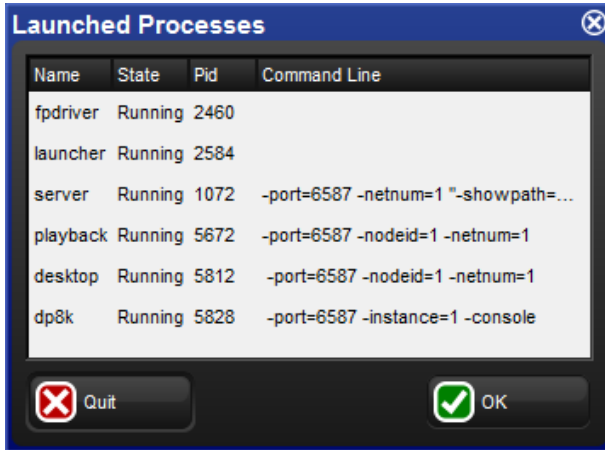

Figure 31.1. The Launched Processes window
1. Pig + Open + Backspace : open the Launched Processes window; see *Figure 31.1, "The Launched Processes window"*.